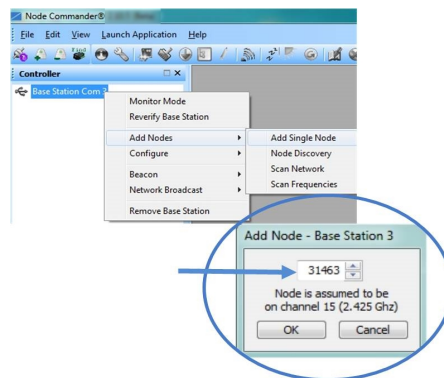

Figure 5 - Adding a Node by Address
1. To add a node by address, right-click on the gateway name in the Controller window, and select Add Node > Add Single Node (Figure 5 - Adding a Node by Address).